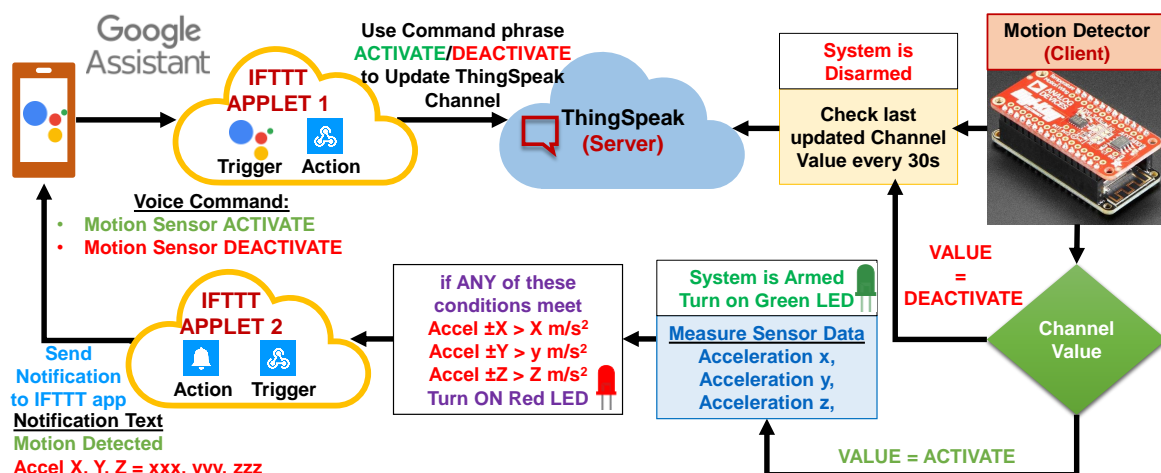

Fig 1. High level overview of Motion Detection System
One application of this system is *bag theft detection*. Consider that you have put the system inside your bag, kept the bag in a stationary place and you are going to workout/gym. You put the system in Armed state via **Google Assistant** voice commands, and the ESP32 starts detecting motion using the accelerometer sensor. As soon as any motion is detected, the system sends an IFTTT notification to your phone (on the IFTTT app), thereby alerting you of possible theft. On the other hand, you might want to disarm the system using Google Assistant when you are ready to take the bag yourself or when you are at home, as you might not want to receive unnecessary notifications. Fig. 1 shows a high-level overview of this system.
The purpose of the 1st applet is to arm and disarm (activate and deactivate) your motion detection system, as shown in Fig. 1. Creating an IFTTT applet is simple: You simply pick a **trigger**, or an “if this,” then pick a “then that” **action**. For the 1st applet, you should use ‘Google Assistant’ as the *trigger* and write a phrase to control your motion detection system. For example, you can use ‘**Motion sensor \$**’ as the phrase, where \$ can be either **Activate** or **Deactivate**. For the *action*, you should use ‘Webhooks’ to send data (in this case \$) to ThingSpeak channel.
5. Overall Application Workflow (Fig. 1)